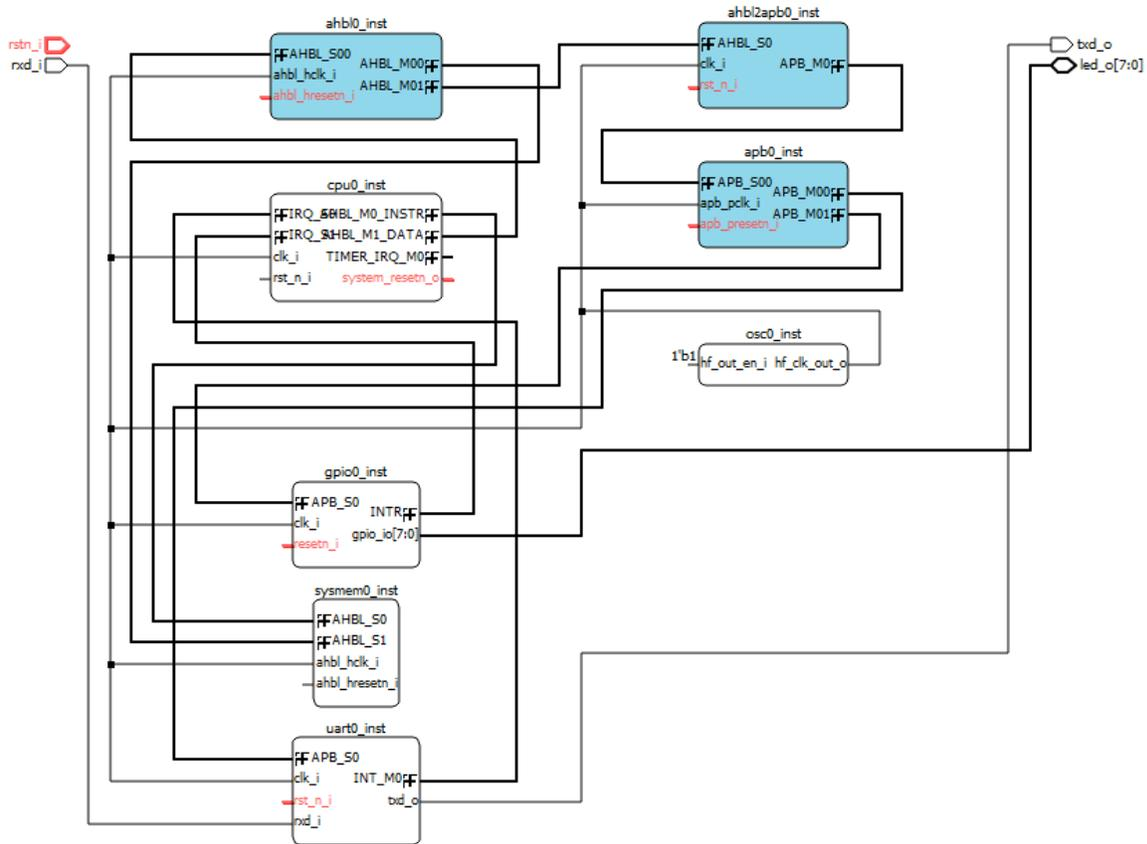

Figure 2.50. Select More than One Ports
- You can connect multiple ports once. When more than one port are selected (Figure 2.50), click **connect**  from the right-click menu to implement it.